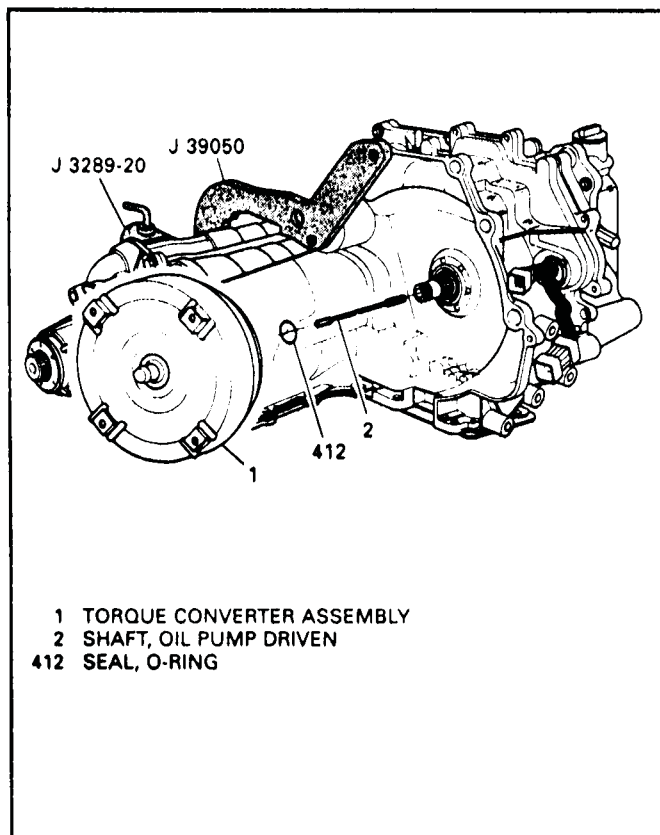

Figure 126
1. Install new "O" ring on the turbine shaft (See Figure 126).
2. Install oil pump drive shaft through the turbine shaft, and rotate until it engages into oil pump. Refer to Figure 126.
3. Install torque converter onto the transaxle (See Figure 126).